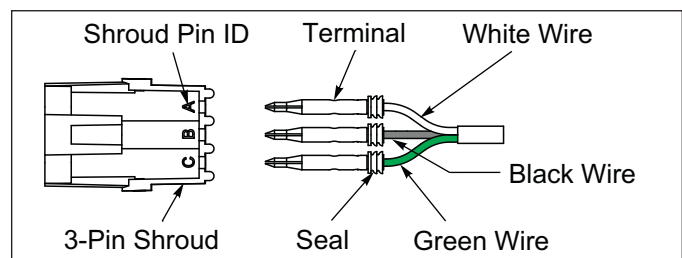
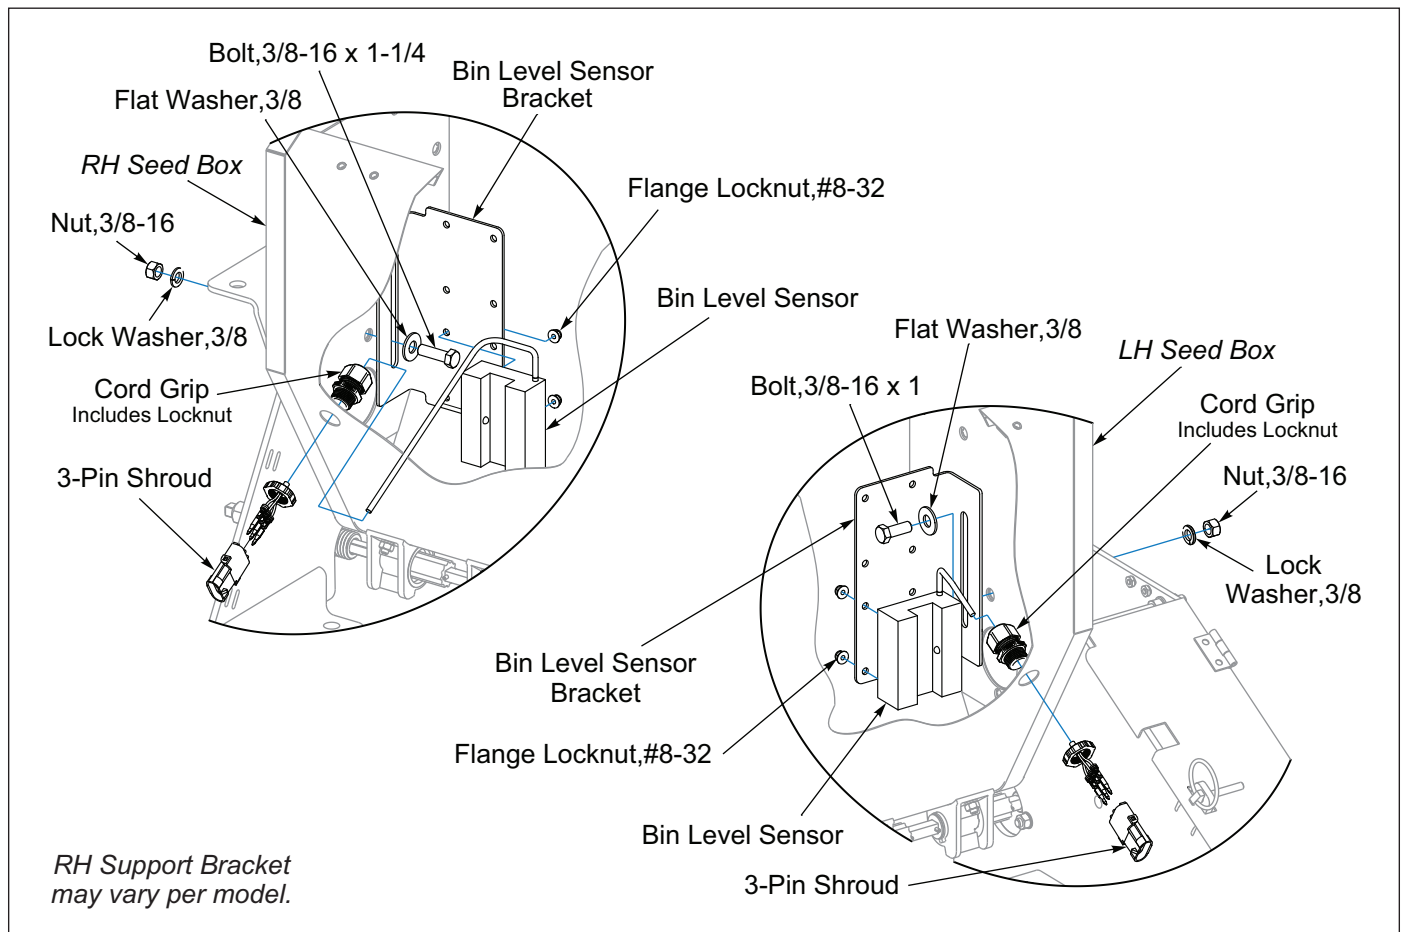

Figure 2-31: Bin Level Sensor Wire Detail
Figure 2-36: Brillion Elite Mini Monitor - Bin Level Sensor
6. On the inside at either end of the Seed Box, install a Bin Level Sensor Bracket with the Seed Box Mounting 3/8-16 Hardware. See Figure 2-36. Determine the desired level for the alarm to be indicated on the Brillion Elite Mini Monitor and assemble the Bin Level Sensors to Bin Level Sensor Brackets with sensor provided hardware and #8-32 Flange Locknuts. If more adjustment is needed, the Bin Level Sensor Brackets can also be raised or lowered to the desired seed level. Install Cord Grips from the inside of the Seed Box out and secure with supplied Locknut on the outside of the Seed Box. To get the Sensor Connector outside the Seed Box, feed the terminals through the Cord Grip. Install the terminals into the 3-Pin Shroud labeled "A", "B" and "C" as follows "A" White, "B" Black, "C" Green. See Figure 2-31. Inside the Seed Box, provide enough cord slack to the Bin Level Sensor Cord to allow for future adjustments of the Sensor. Secure the Bin Level Cord by tightening the Cord Grip Compression Nut. Connect both Bin Level Sensors to the Seeder Harness.